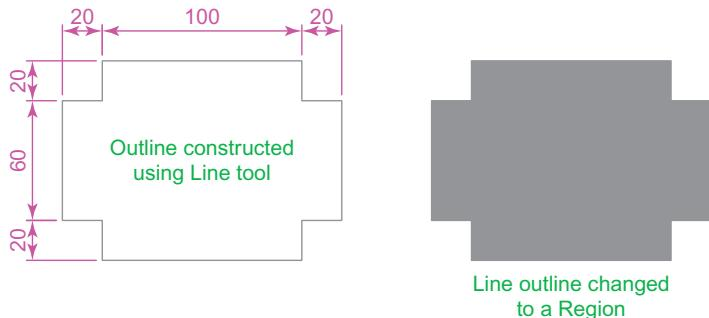

Fig. 12.9 First example – Line outline and Region
First example – Line outline & Region (Fig. 12.9)
2. Construct the left-hand drawing of Fig. 12.9 using the **Line** tool.
And the **Line** outline is changed to a **Region** – right-hand drawing in Fig. 12.9.